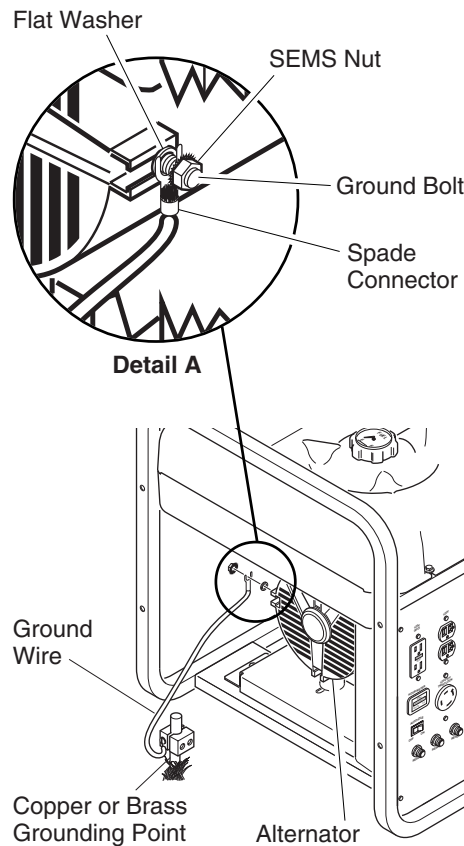

Figure 11 - Grounding Generator
1. Locate ground bolt on generator housing (see Figure 11).
4. Attach spade connector to ground bolt between flat washer and SEM nut (see Detail A in Figure 11).